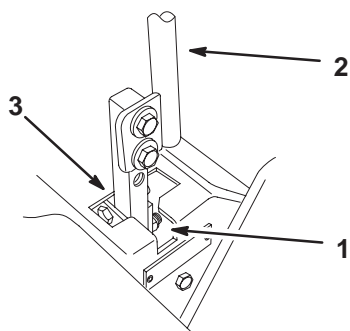

Figure 55
7. Check where the control lever is relative to notch in console (Fig. 55). It should be centered allowing lever to pivot outward to the neutral lock position.
9. Apply slight rearward pressure on the motion control lever, turn the head of the adjustment bolt in the appropriate direction until the control lever is centered in neutral lock position (Fig. 55).